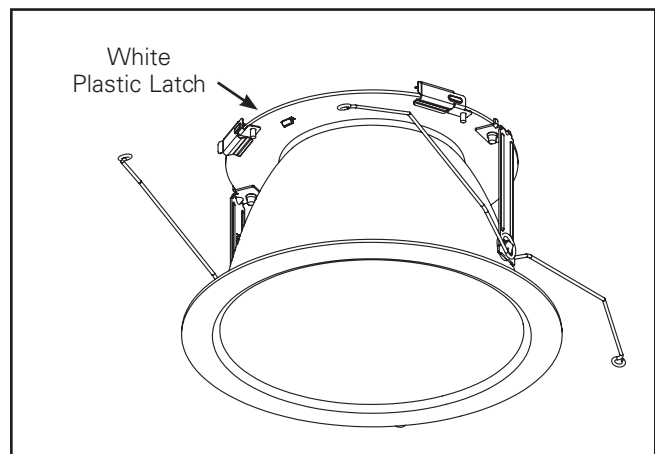

**Figure 10**
6. Find the green tether inside cylinder and attach it to the heatsink using the screw and lock washer located in the envelope attached to the tether. (Figure 10)